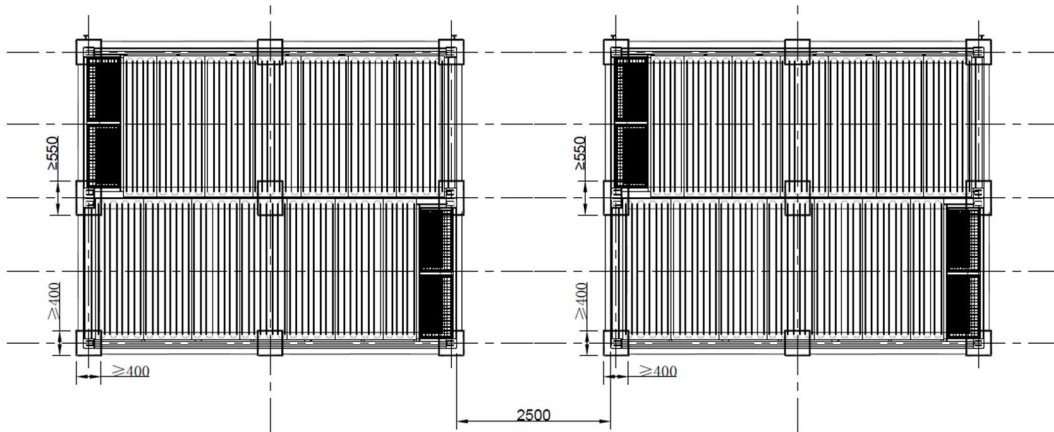
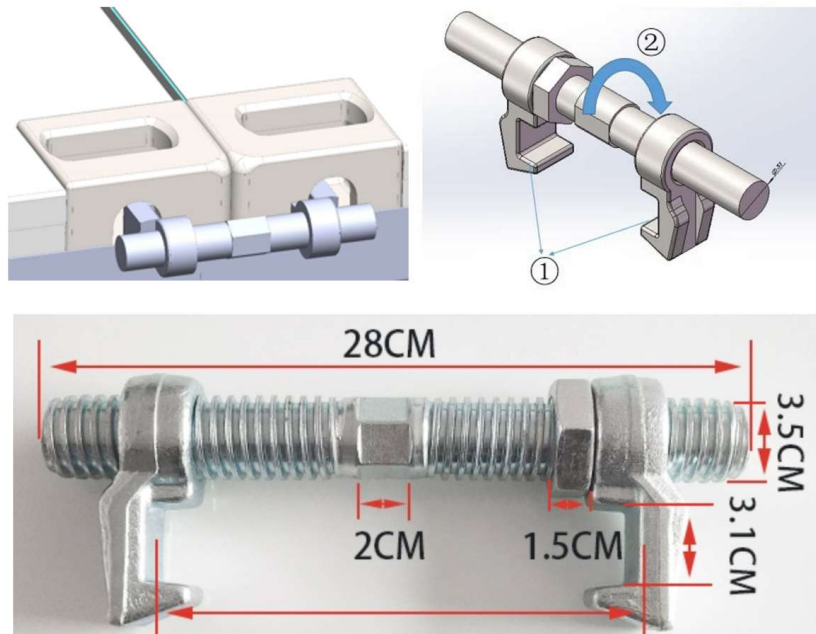

Figure 14: Space between SolBank3.0 series Installation. Refer to details for site specific design by EOR.
Figure 15: Installation effect of Bridge Lock. Refer to details for site specific design by EOR.
- ✓ Step 2: For back-to-back installations, the top back edge of adjacent SolBank3.0 series must be connected at the 2 locations shown in Figure 14 using the Bridge lock shown in Figure 15.